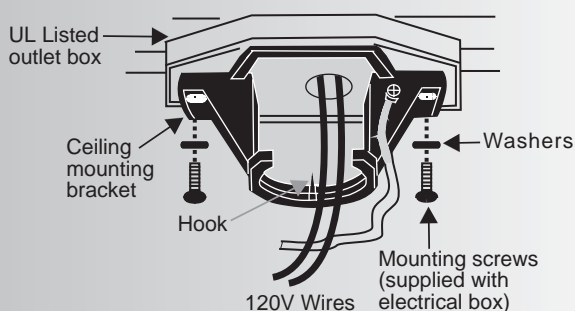

Fig. 9
Step 3. Pass the 120 volt supply wires from the ceiling outlet box through the center of the ceiling mounting bracket. (Fig. 9)
Step 4. Attach the ceiling mounting bracket to the outlet box using the screws and washers included with the outlet box. (Fig. 9)